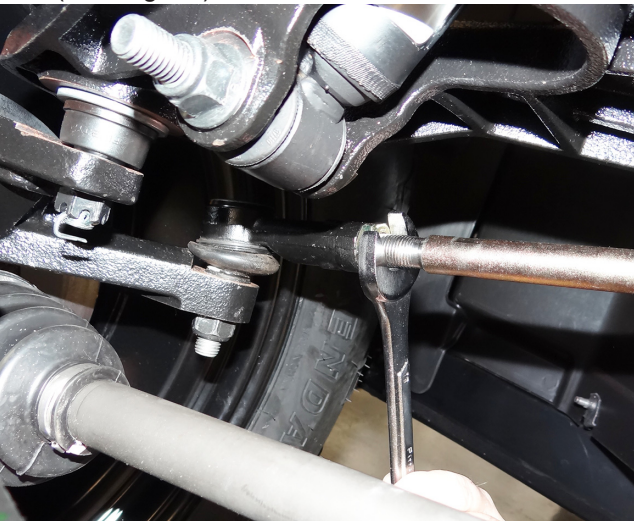

Fig. 31 Wheel Alignment
3. Remove the bolt (43) and nut (44) that secure the lower steering shaft (42) to the EPAS unit (1) (Ref. Fig. 31).